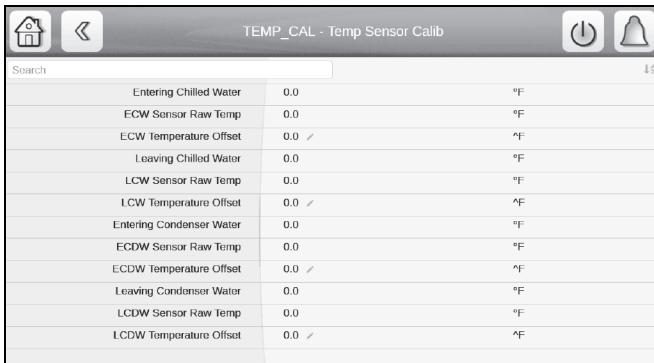

Fig. 44 – Temp Sensor Calib Screen, Page 1
- In the Temp Sensor Calib screen, enter the temperature offset for the appropriate sensor as calculated in Step 4. See Fig. 44.